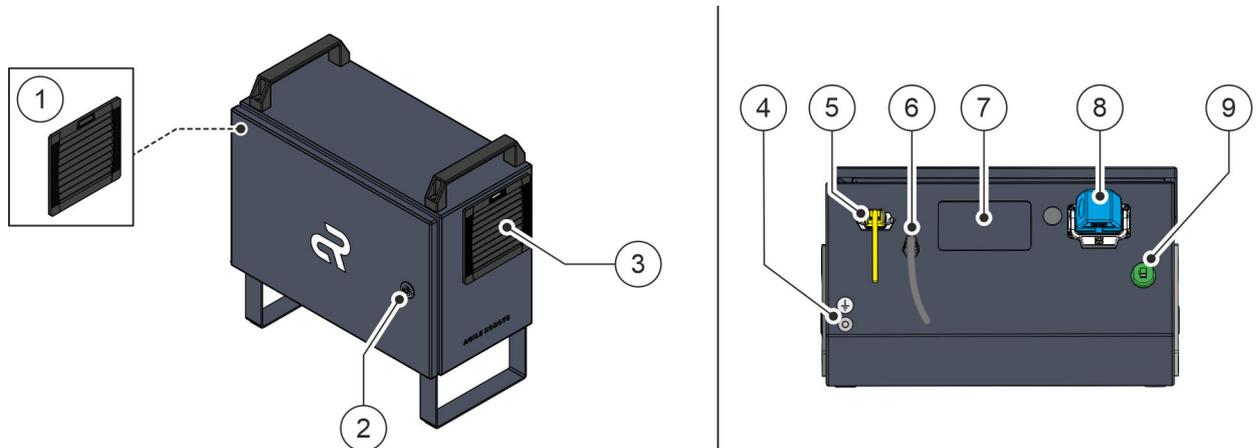

Fig. 8 Overview of robot controller (left), underside of robot controller with connections (right)
In the robot controller Fig. 8, the electrical equipment is protected against external influences. The robot controller contains the interfaces for connecting the robot to external machines and safety devices provided by the owner.
Only the system integrator or a qualified electrician may open the robot controller Fig. 8/②.
The connecting cables for the robot, the handheld controller and the power supply are connected to the bottom of the robot controller Fig. 8/⑧ + ⑥ + ⑤. The mains connection features the following:
The robot is operated with the help of a user interface that can be accessed on a laptop or a tablet. The Ethernet port Fig. 8/⑧ for connecting to the laptop or tablet is also located on the bottom of the robot controller.
The robot controller is equipped with a fan unit Fig. 8/① + ③ for cooling.